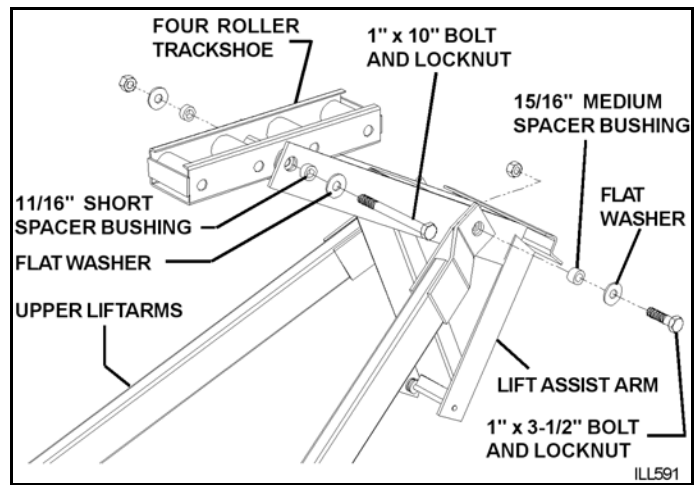

Figure 3.36
- ➔ 15. **81'**: Attach upper lift arms to the center hole on the lift-assist arms as shown in Figure 3.36 using two 15/16" medium spacers, flat washers, and two 1" x 3-1/2" bolts and locknuts. **Tighten securely.** The lift arms will pivot on the spacer bushings.
13. Fasten flat braces (B) to first set of holes (furthest from intake) on stabilizer braces (A) with one 5/8" x 2" bolt and locknut. Place one 5/8" x 1-1/2" bolt and locknut in other hole of stabilizer brace.
14. Attach upper lift arms to center hole on the lift-assist arms (Figure 3.36) with two 15/16" medium spacers, flat washers, and two 1" x 3-1/2" bolts and locknuts. **Tighten securely**; lift arms will pivot on the spacer bushings.